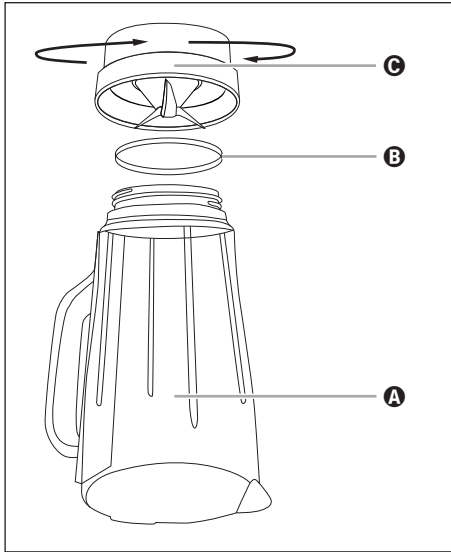

Fig. 4
- 2) Turn the appliance upside down and turn the plastic part ③ of the blender ③ anticlockwise so that it can be detached from the glass part ① of the blender attachment ③ (see fig. 4).
- 4) You can carefully remove the sealing ring ⑦ from the plastic part ③ if necessary. Clean in mild soapy water and rinse with clear water.
- 6) If necessary, reinsert the sealing ring ⑦ into the plastic part ③ correctly. Then place the plastic part ③ of the blender ③ back on the glass part ① of the blender ③ and turn the plastic part ③ clockwise.